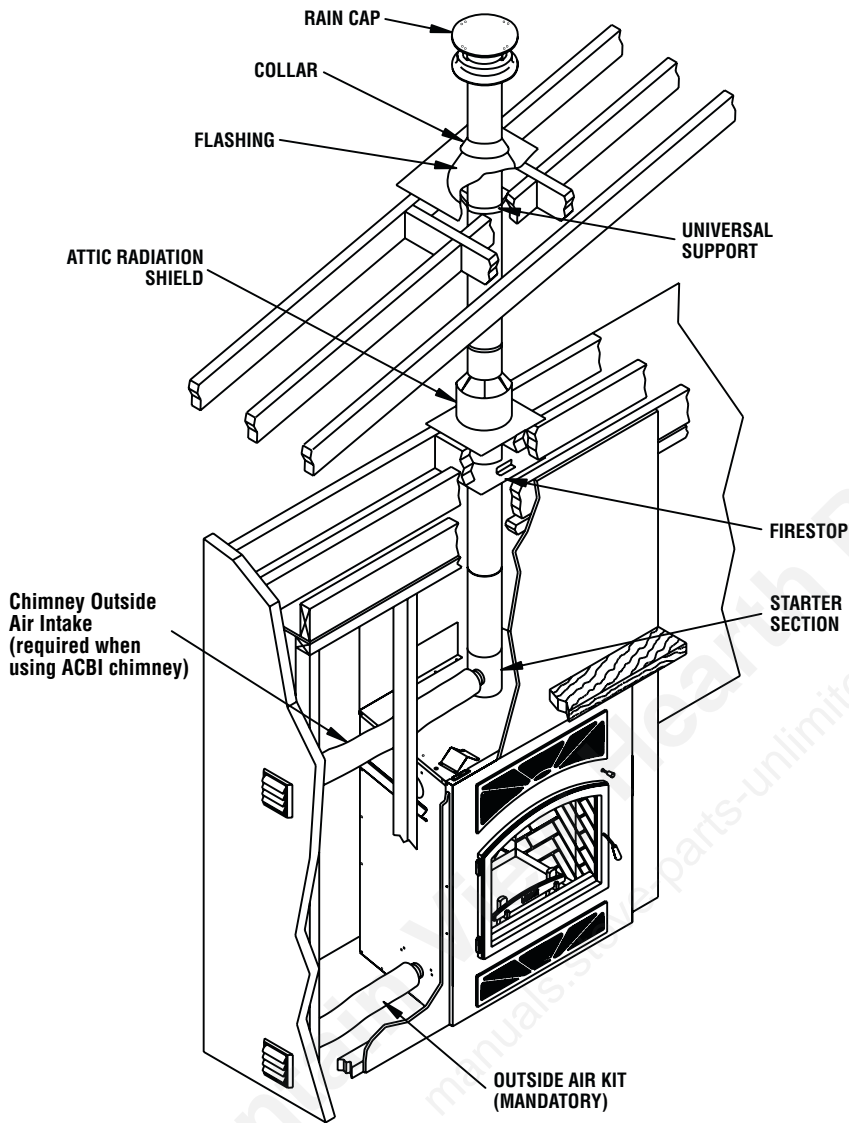
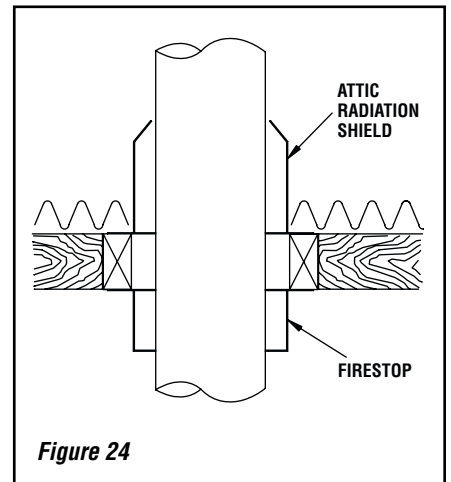

Figure 22
Figure 24
2. From below, install a firestop in each ceiling/floor separation through which the chimney will pass. At the attic level, install an attic radiation shield from above, (see Figure 24). S2100+* and ASHT+*: Place the first chimney length on the fireplace, to lock turn 1/4 of a turn clockwise. ACBI*: A starter section must be installed before installing the first chimney length (see Figure 22).